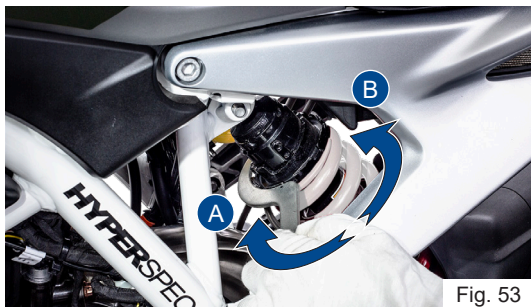

Fig. 53
- Locate the adjuster shock absorber rear and handle ring spanner of tool kit (refer **page 202**) properly into the notches of pre-load adjuster as shown in the figure (**ref. Fig. 53**).
- Carefully rotate the adjuster clockwise (A) to increase the pre-load (hard suspension).
- Else, rotate the adjuster in anti-clockwise (B) to decrease the pre-load (soft suspension).